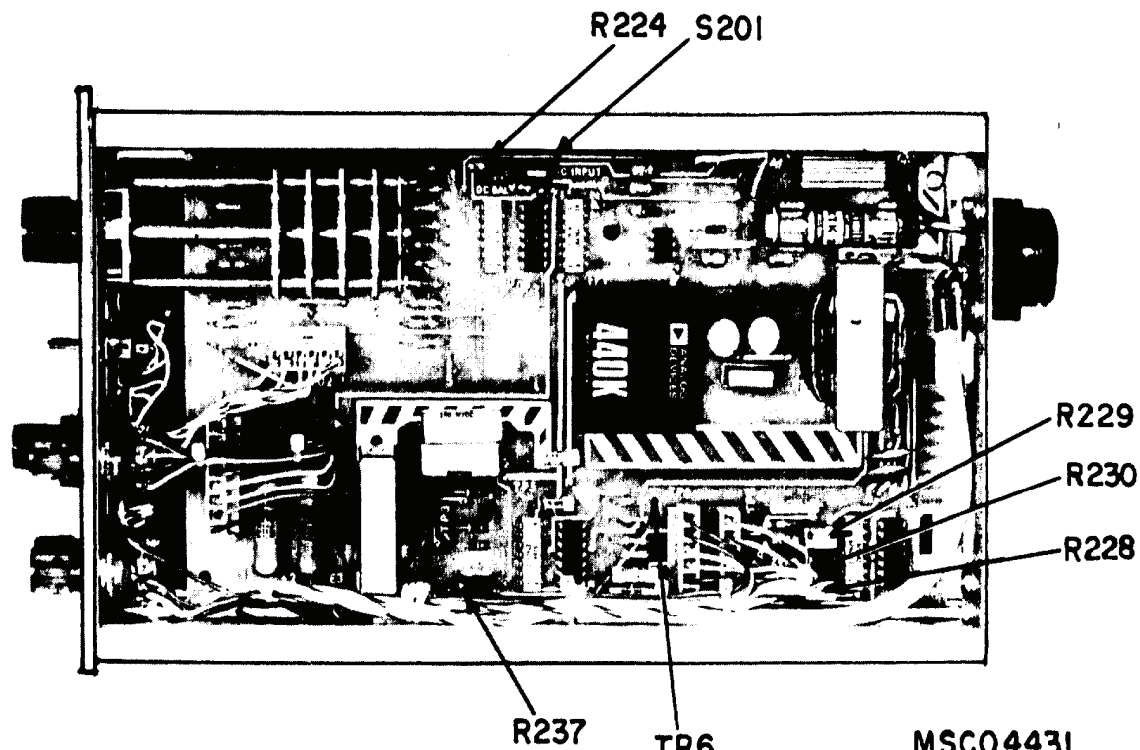

Figure 3. Model 13-4618-10 - right side view.
- d. Set front panel controls as listed in (1) through (7) below:
- (1) **FULL SCALE** switch to 1.
- (2) **ZERO SUPPRESSION** switch **OFF**.
- (3) **ZERO SUPPRESSION** control ccw to 0.
- (4) **FILTER** switch **OFF**.
- (5) **MODE** switch to **X1 VOLTS**.
- (6) **SENSITIVITY** control fully cw.
- (7) **RANGE** switch to **X1**.
- e. Set **DC INPUT** switch S201 to left (fig. 3).
- (1) Disconnect calibrator.
- (2) Set **RANGE** switch to **X.1**.
- (3) Connect multimeter negative lead to TP7 and positive lead to TP6 (fig. 3) on TI.
- (4) Turn **SENSITIVITY** control on front panel fully ccw. Adjust R230 **ZERO** (fig. 3) for 0 \pm .005 V indication on multimeter.
- (5) Turn **SENSITIVITY** control on front panel fully cw, set S201 to DC INPUT (right) (fig. 3), and short pins 1 and 2 of 101. Adjust R237 **OFFSET** (fig. 3) for 0 \pm .005 V indication on multimeter.
- (6) Set **RANGE** switch to **X1** on front panel and set S201 to DC BAL (left) (fig. 3).
- (7) Connect calibrator to pins 1 and 2 of **J-101**. Set calibrator for 1.000 VDC output and record multimeter indication.
- (8) Set calibrator to -1.000 VDC. If multimeter does not indicate voltage recorded in (7) above, adjust R224 DC BAL (fig. 3) for same reading within \pm 0.002 V. Repeat (7) and (8) above until no further adjustment is needed (R).
- (9) Adjust R229 **SPAN** (fig. 3) for multimeter reading of 5 \pm 0.005 V (R).
- (10) Adjust **ZERO SUPPRESSION** control cw to 100 percent, set **ZERO SUPPRESSION** switch **ON**, and **RANGE** switch to X.1. Adjust R228 **SUP ADJ** (fig. 3) for 0 \pm .005V indication on multimeter.
- (11) Repeat (1) through (10) above to eliminate interaction.
- (12) Slide all manual ink valves with tubing attached to **OFF** position on recorder.